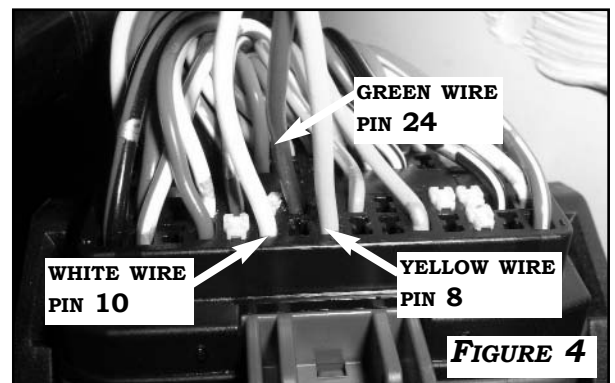

FIGURE 4
1. LOCATE THE THREE WIRE ECM HARNESS IN KIT. INSERT THE **GREEN** WIRE OF ECM HARNESS IN **PIN 24** OF EO1. INSERT THE **WHITE** WIRE OF ECM HARNESS IN **PIN 10** OF EO1. INSERT THE **YELLOW** WIRE OF ECM HARNESS IN **PIN 8** OF EO1. FIGURE 4. RE-ASSEMBLE CONNECTOR, INCLUDING RETAINER. BE SURE TO PLACE CONNECTOR BACK ON ECM SECURELY.